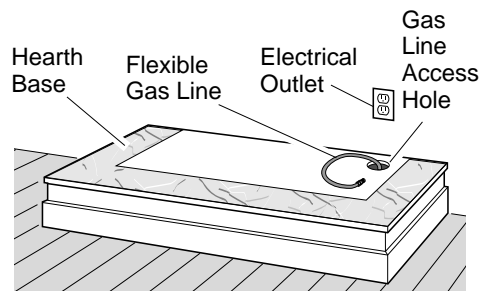

Figure 9 - Placing Hearth Base Accessory Against Wall
- When installing blower, install a properly grounded, 120 volt three-prong electrical outlet at fireplace location if an outlet is not there. If possible, locate outlet so cabinet mantel will cover it when installed (see Figure 9).
wall at installation location. Cut an access hole in hearth top to run flexible gas line to fireplace (see Figure 9). Make sure to locate access hole so cabinet mantel will cover it when installed. *Note:* You can secure base to floor using wood screws. Countersink screw heads and putty over.